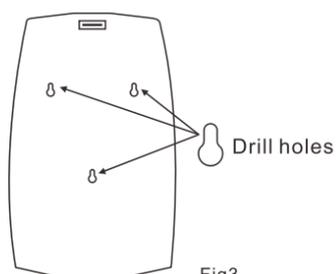

Fig3
- 2) Put the dispenser on wall, mark the drill holes according to the holes on back plate. (Fig3)